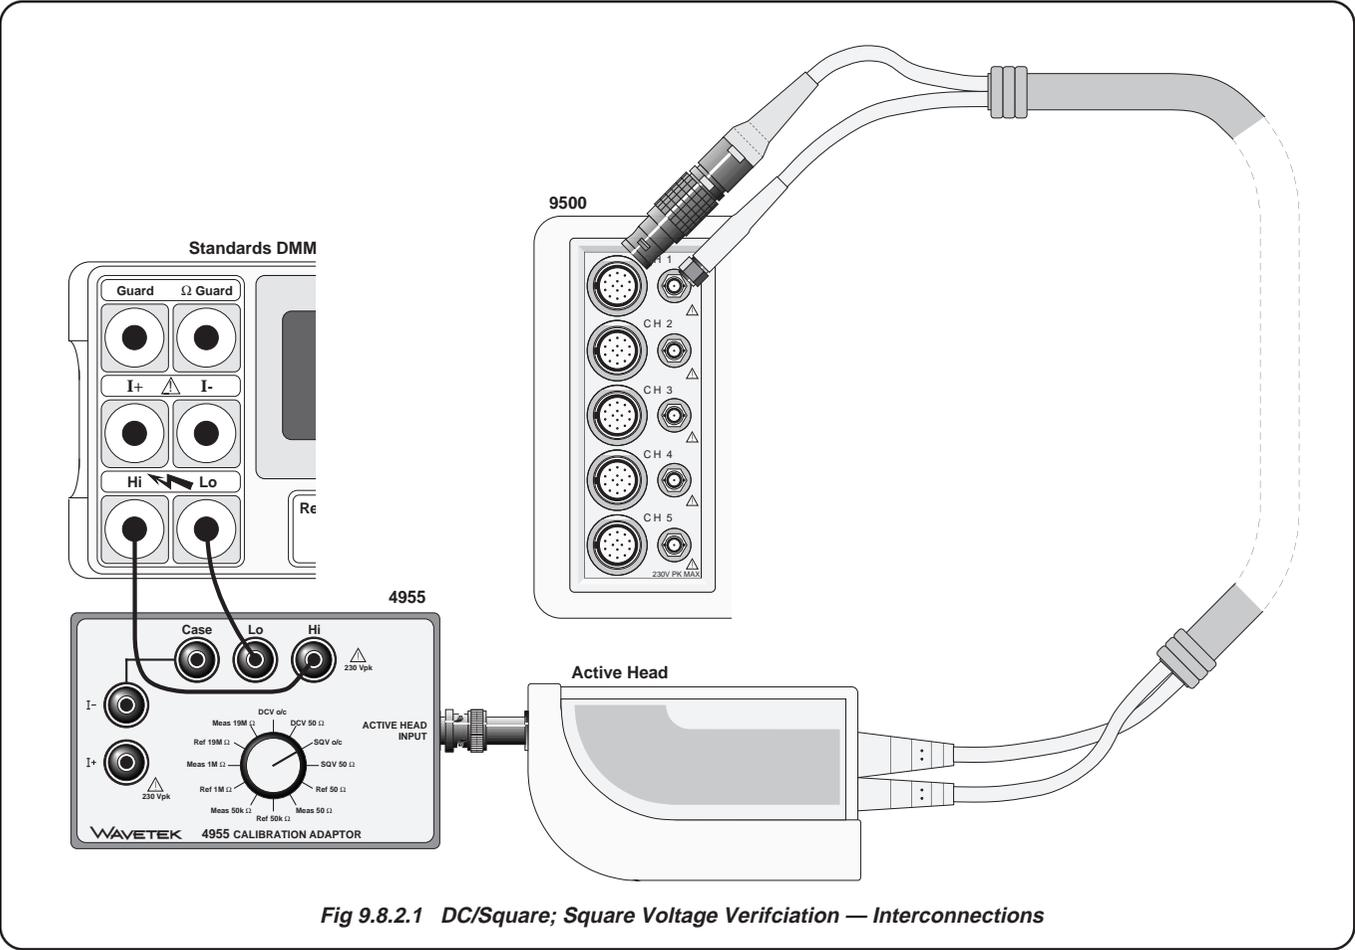

Fig 9.8.2.1 DC/Square; Square Voltage Verification — Interconnections
Refer to *Fig 9.8.2.1* opposite.
1. **Connections** Ensure that the 9500 is connected to the DMM as shown in *Fig. 9.8.2.1*, or via a similar BNC-4mm adaptor, and that both instruments are powered on and warmed up.